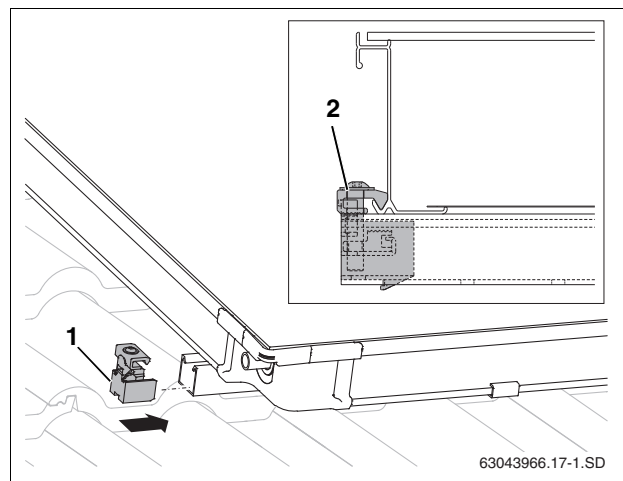

Fig. 46 Single-sided collector clamp (left)
- Push the single-sided collector clamp (Fig. 46, [1]) into all profile rails.
- Push collector clamp up against the collector frame and screw in place using size 5 Allen key (Fig. 46, [2]).